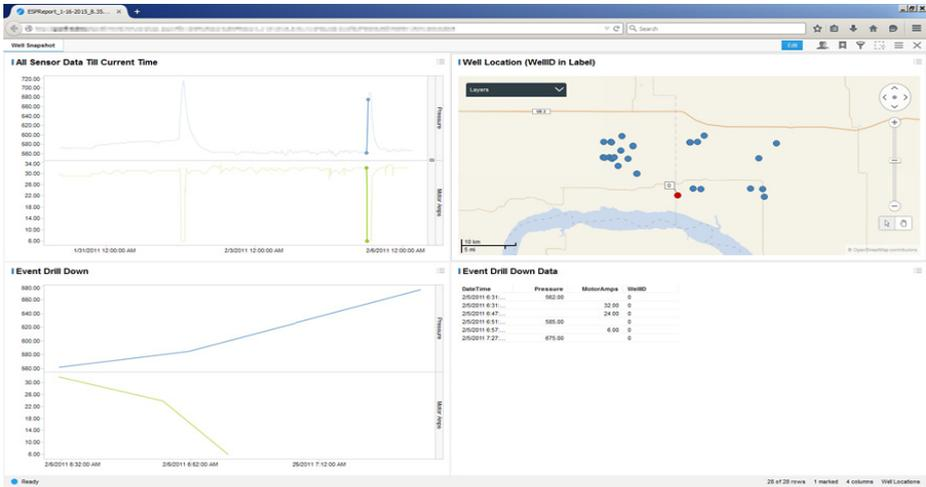

Fig. 4. Alerting View in Web Browser (via Spotfire) to Facilitate Root-Cause Analysis
- Spotfire data discovery on ESP data: Data discovery on historical sensor data for equipment in production, and development of hierarchical mathematical models as leading indicators of equipment failure conditions (Figure 4)